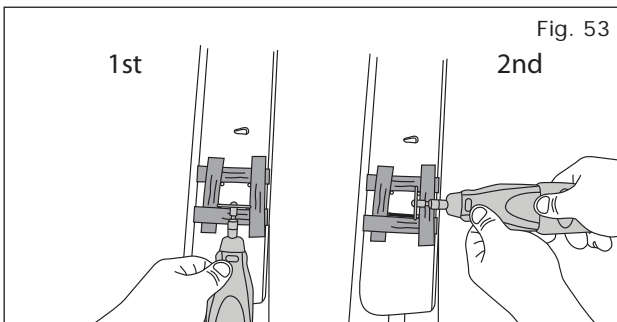

Fig. 53
- 58) Using a cut-off wheel, follow the straight electrical taped line and begin cutting out the camera hole. (Fig. 53)